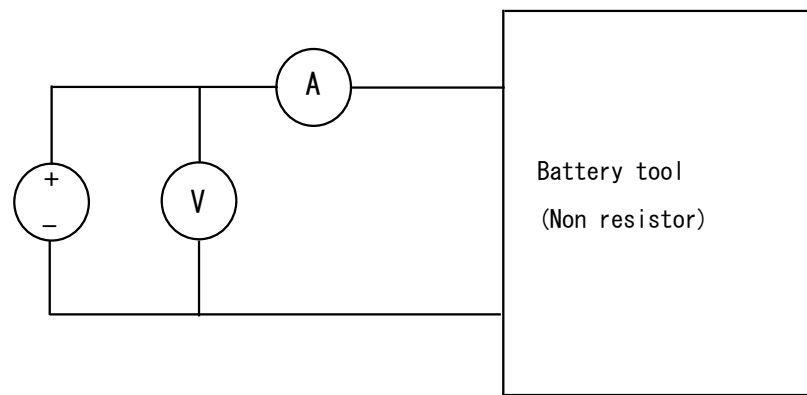

Fig. 2
- (1) As shown below (Fig. 2), connect the constant-voltage power supply, voltmeter and ammeter to the battery tool (without resistor).
- (2) Set the voltage of the constant-voltage power supply to 7.2 [V].
- (3) Set the battery tool (without resistor) onto the camera and start the camera.
- (4) Connect the USB cable.
- (5) Select “Battery check level adjustment” in “Contents” on the menu display.
- (6) Press the START button. Perform the procedure according to the instructions on the screen.
- (7) The adjustment result is displayed at the result display position. If “OK” is displayed, the adjustment is normally ended. If the adjustment is NG, “NG” is displayed and the contents of the error are displayed in the column of “COMMENT”.
- (8) Remove the USB cable from the camera and then remove the AC cable.